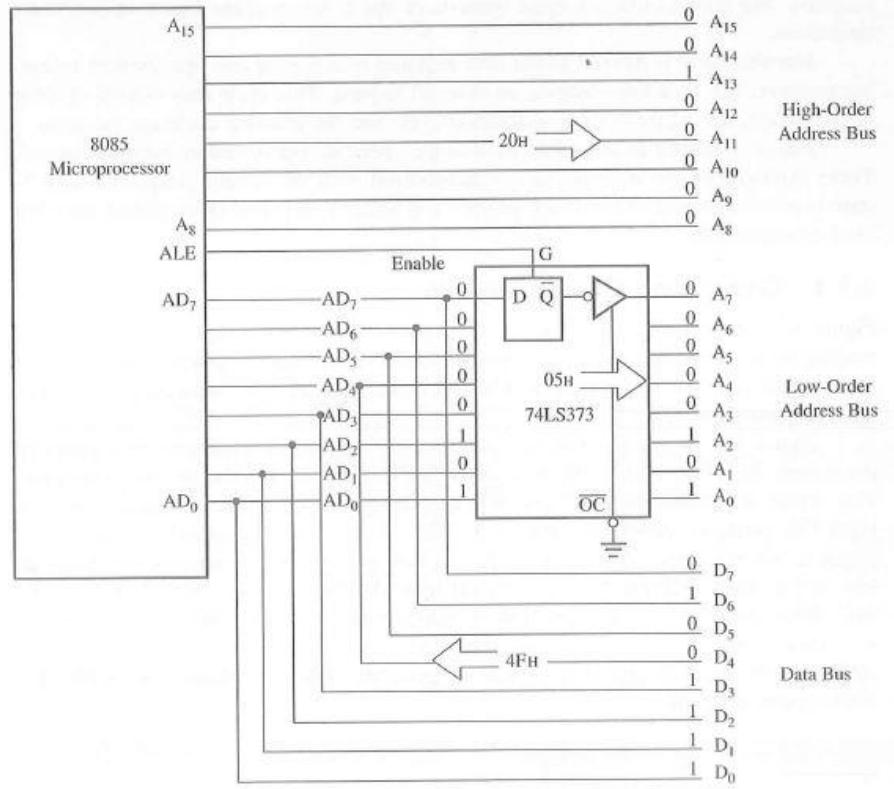

FIGURE 4.4
Figure 4.4 shows a schematic that uses a latch and the ALE signal to demultiplex the bus. The bus AD_7-AD_0 is connected as the input to the latch 74LS373. The ALE signal is connected to the Enable (G) pin of the latch, and the Output control (OC) signal of the latch is grounded.